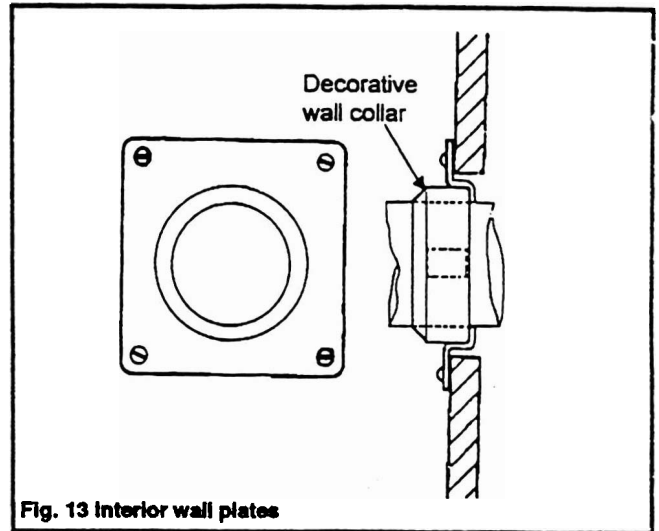

Fig. 13 Interior wall plates
- 10.16** Push the decorative wall collar firmly inside the dished center of the wall plate (see figure 13).